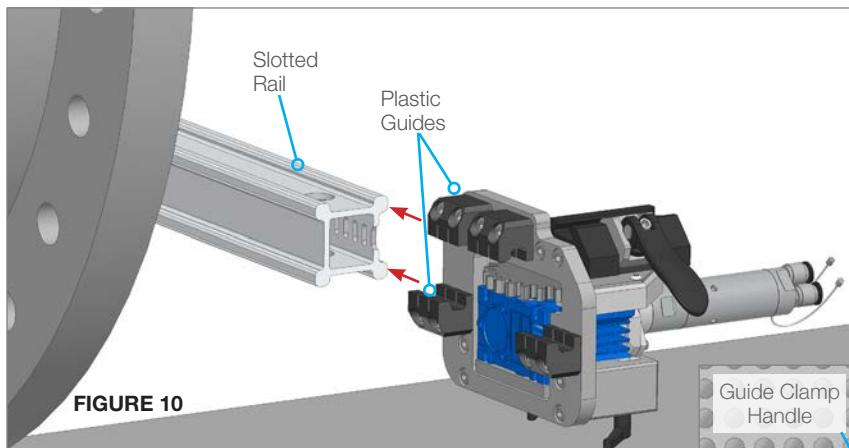

FIGURE 10
13. Orient the Linear Drive as shown in **(Figure 10)**
14. Align the bottom Plastic Guides with the Rail and slide the Linear Drive onto the Rail. **(Figures 10 & 11)**